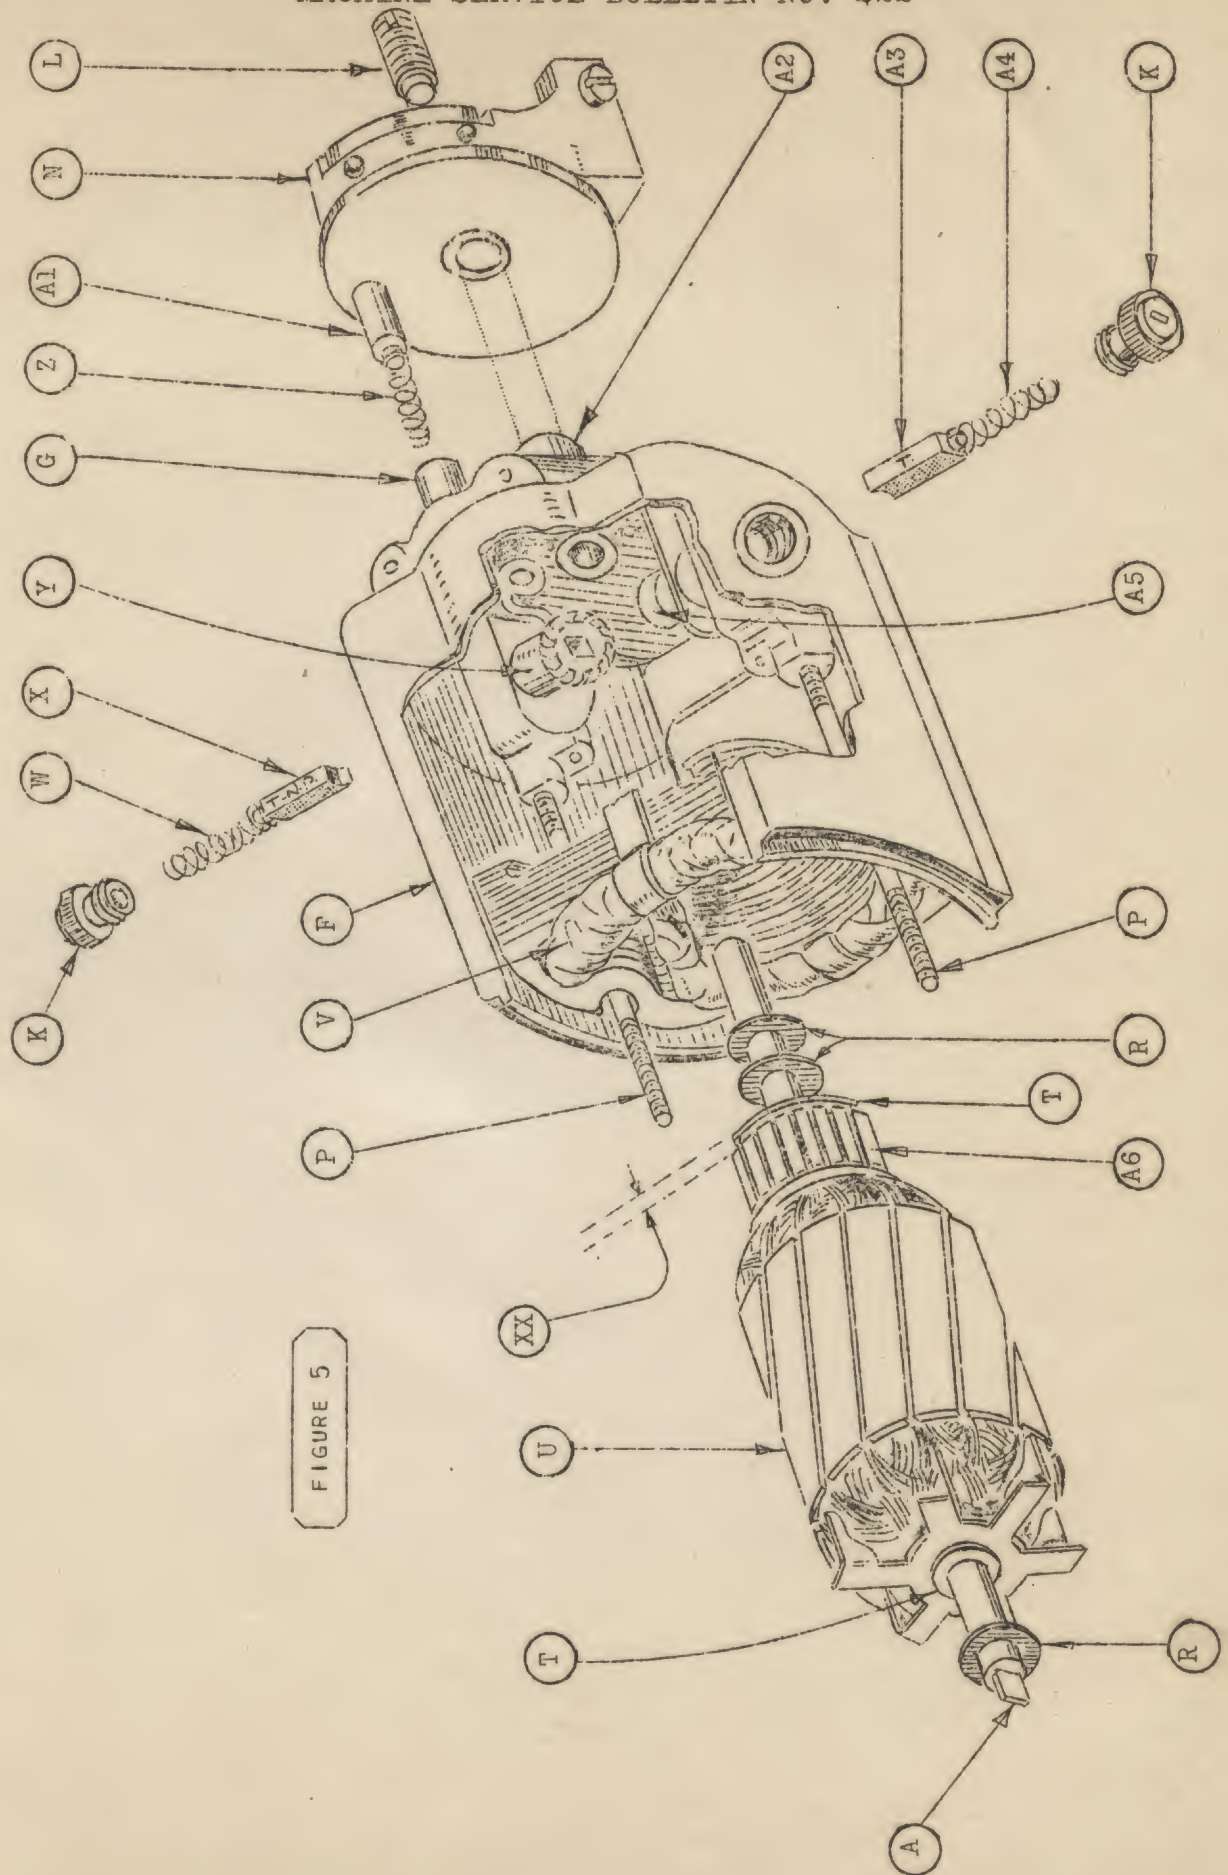

FIGURE 5
- 2 Remove the three motor brushes (X), (A1), and (A3), figure 5.